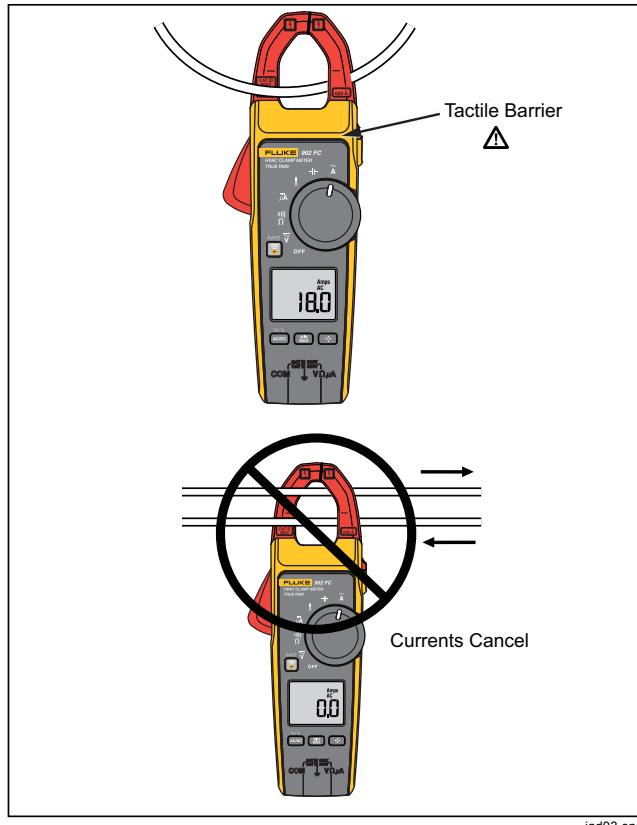

Figure 4. Proper AC Current Measurement
- **Do not hold the Product anywhere beyond the tactile barrier (see Figure 4).**
2. Center the wire within the clamp jaws below the horizontal line located on the clamp (see Figure 4).
Measure one wire at a time because currents moving in different directions will cancel each other out (see Figure 4).